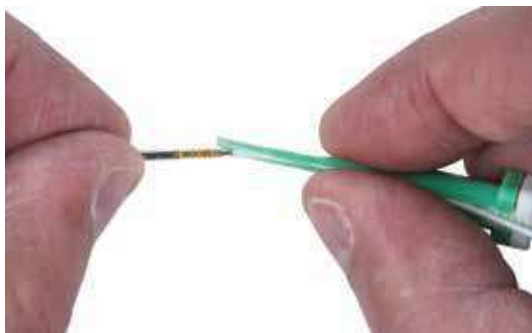

Figure 21
(23) Insert contacts into connector as follows:
- a. Hold the insertion half of the tool between the thumb and forefinger and lay the wire against the slot of the tool, then snap the wire into the slot (Figure 21).